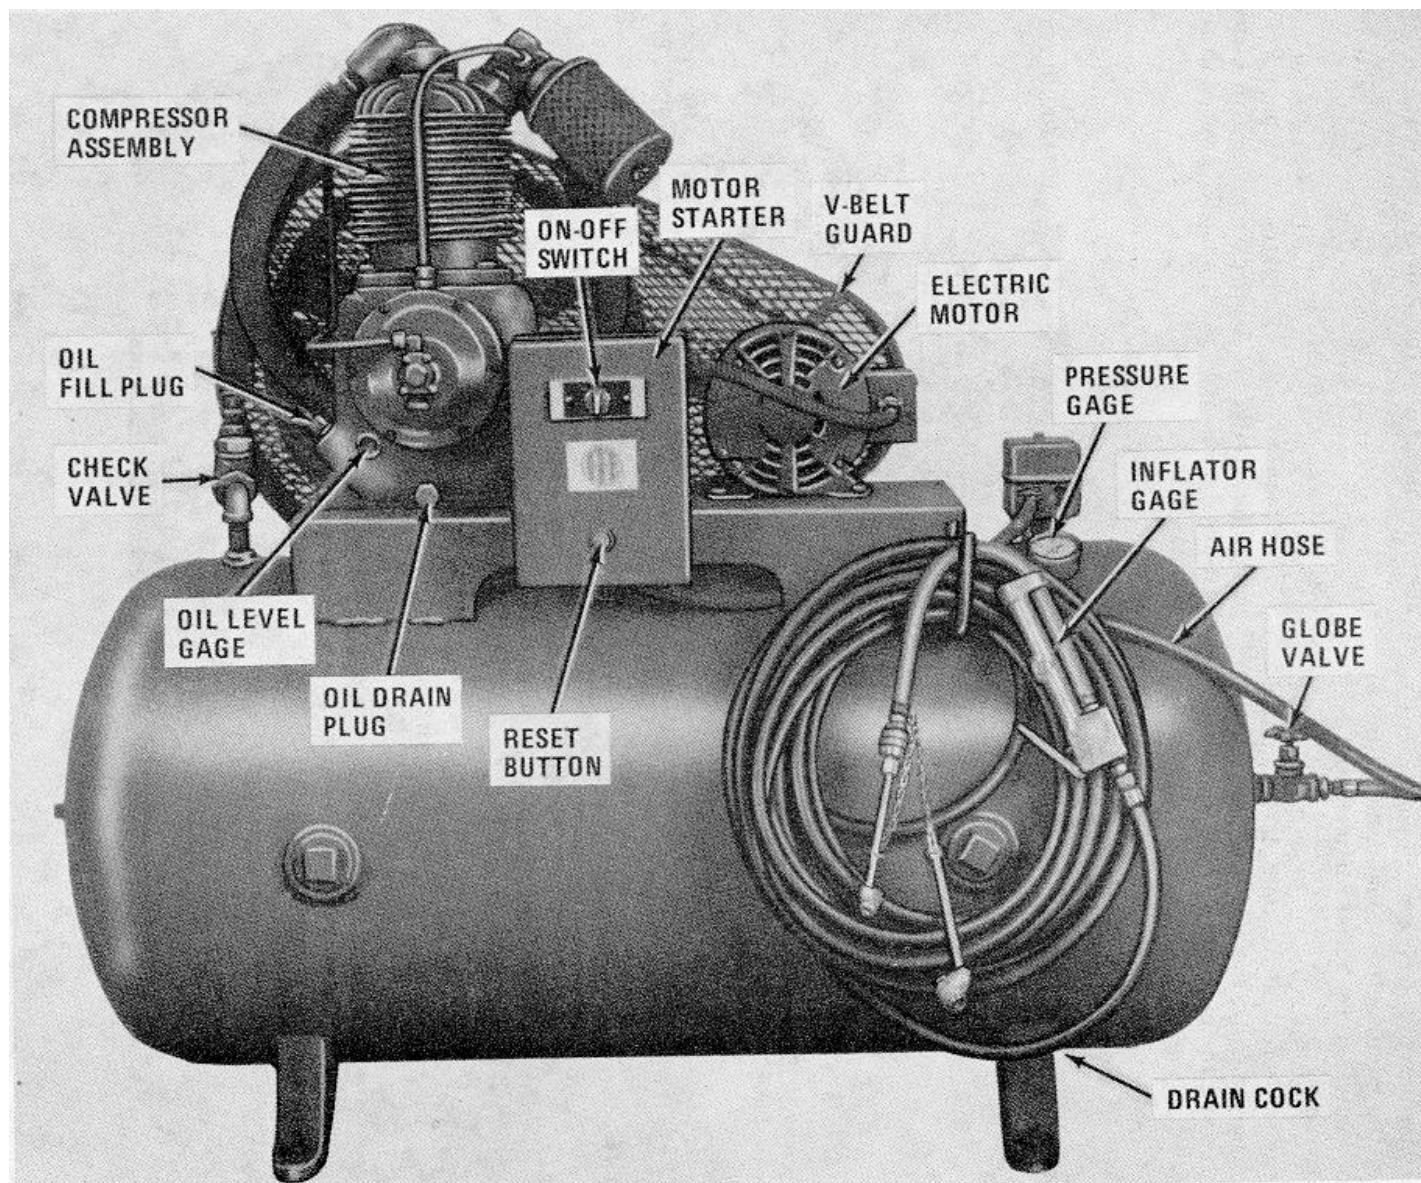

Figure 1-1. Air Compressor, right side view.
a. The HR2-6M-1 (figs. 1-1 and 1-2) is a two cylinder, reciprocating type air compressor capable of delivering 5 cubic feet per minute (0.1415 cu meters per min). The compressor assembly and associated electric motor are mounted on a frame which is welded to the air receiver, and 60 gallon steel tank. The electric motor drives the compressor assembly by means of a matched pair of V-belts.
b. Globe Valve. The globe valve (fig. 1-1) mounted on the end of the air receiver tank is a manually operated valve that opens the flow of compressed air to the air hose.
c. Drain Cock. The drain cock (fig. 1-1) mounted on the underside of the air receiver tank is a manually operated valve used to drain compressed air and condensation from the air receiver tank. Receiver should be drained daily when the air compressor is in use.
d. Oil Level Gage. The oil level gage (fig. 1-1) mounted in the compressor crankcase is a direct reading, glass covered gage used to check the level of the oil in the compressor crankcase.
e. Air Receiver Tank Pressure Gage. The air receiver tank pressure gage (fig. 1-1) mounted on the side of the air receiver tank, is a needle-indicating, direct-reading, pressure-operated gage graduated in pounds per square inch (psi) and kilograms per square centimeter (kgs per sq cm), the gage is graduated from 0 to 300 psi in increments of 5 psi, and from 0-21.1 kgs sq cm in increments of 50 centimeters. The gage indicates the air pressure in the air receiver tank. Normal operating pressure is 165 psi (11.60 kgs per sq cm) to 190 psi (13.36 kgs per sq cm).
g. ON-OFF Starter Switch. The on-off starter switch (fig. 1-1) is a manually actuated switch located top center of the motor starter box cover. In OFF position the compressor motor will not operate. When the selector is turned to ON position the compressor will operate until pressure in air receiver tank reaches 190 psi (13.36 kgs per sq cm) then the pressure switch automatically shuts-off the motor. The compressor will recycle again automatically when pressure drops below 165 psi (11.60 kgs per sq cm) and continue to cycle automatically in this ON position.
h. Reset Button. The reset button (fig. 1-1) mounted on the cover of the magnetic starter, below the ON-OFF switch, is manually operated button, which when pushed, resets the thermal relay in the magnetic starter.
j. Inflator Gage. The inflator gage (fig. 1-1) controls and indicates the amount of air being discharged.
(1) Inspect the electric motor to make sure it is properly wired from incoming power source and that power is on.
(2) Turn ON-OFF switch (fig. 1-1) to "ON" position.
Should the compressor fail to start, depress the reset button (fig. 1-1).
(2) Turn ON-OFF switch (fig. 1-1) to "OFF" position.
(3) Open the drain cock (fig. 1-1) in the bottom of air receiver tank to release the compressed air and condensation from the air receiver tank.